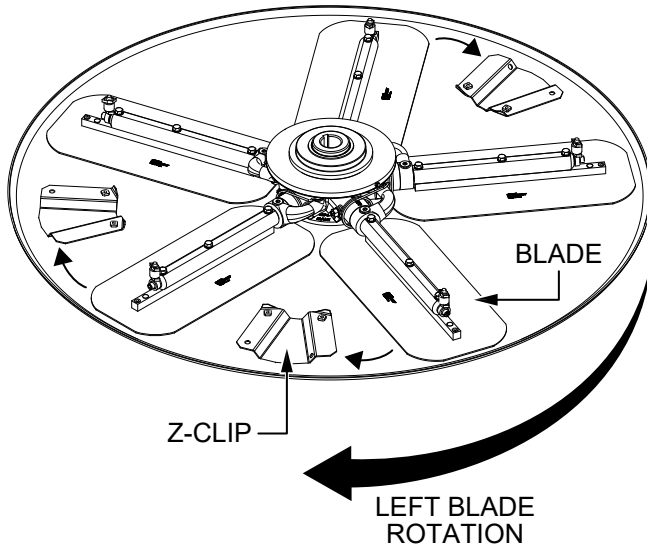

Figure 54. Blade Rotation
2. Rotate the blades into position under the Z-clips (Figure 54). Make sure the blades are rotated in the same direction as when the machine is in operation, or use the engine to rotate the blades into position.